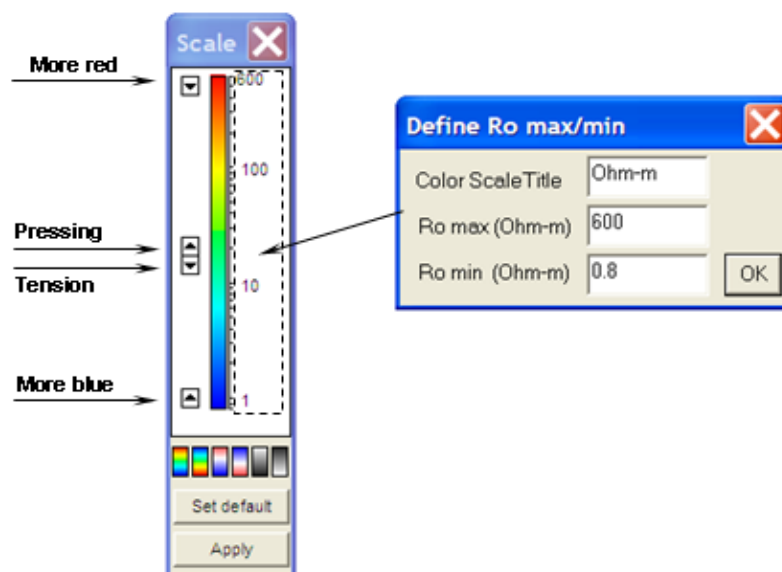

Fig. 37
To correct the color palette of the scale of resistances click twice on the scale ruler on the right side of the figure - Edit dialog appears (Fig. 37).
- 1. To change the scales in the color range it is necessary to use the methods of Fig. 37.**